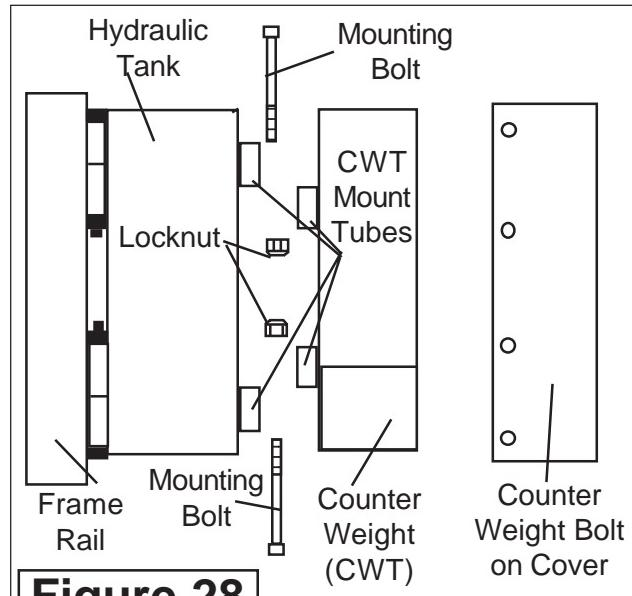

Figure 28
2. Hydraulic Tank Installation. The Hydraulic Tank is shipped with the return Filter Assembly, the Suction Filter assembly is already installed in the Tank. The Hydraulic Tank is mounted on the LH side of LH Frame Rail. The Mounting Tubes are welded to the Frame rail and to the Hydraulic Tank (**See Figure 28 & 29**). Do not fill Hydraulic Tank with Oil until all the Hoses have been installed and tightened.
1. Counter Weight (CWT) Installation. The Counter weight (**See Figure 28**) mounts on the LH side and is mounted to the Hydraulic tank which mounts to the LH Frame Rail with a mounting bolts running up through tubes that have been welded to the frame rail and Tank. The Bolts must be installed as shown with the Lock-nuts to the inside . Installing the Bolts this way will make them easier to tighten up (**See Figure 28 & 29**). Install both bolts as shown (**See Figure 28**). Snug the Bolts, don't tighten them yet.
2. Counter Weight Cover (CWT). The Counter Weight Cover will bolt to counter weight. (**See Figure 28 & 30**).